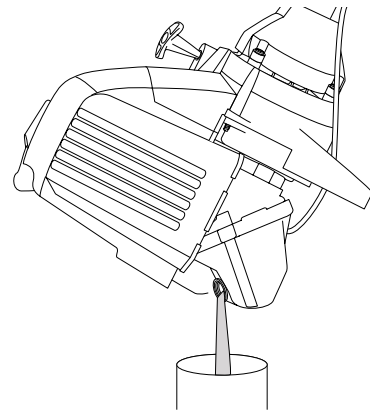

Fig. 30
3. Pour the oil out of the oil fill hole and into a container by tipping the unit to a vertical position (Fig. 30). Allow ample time for complete drainage.